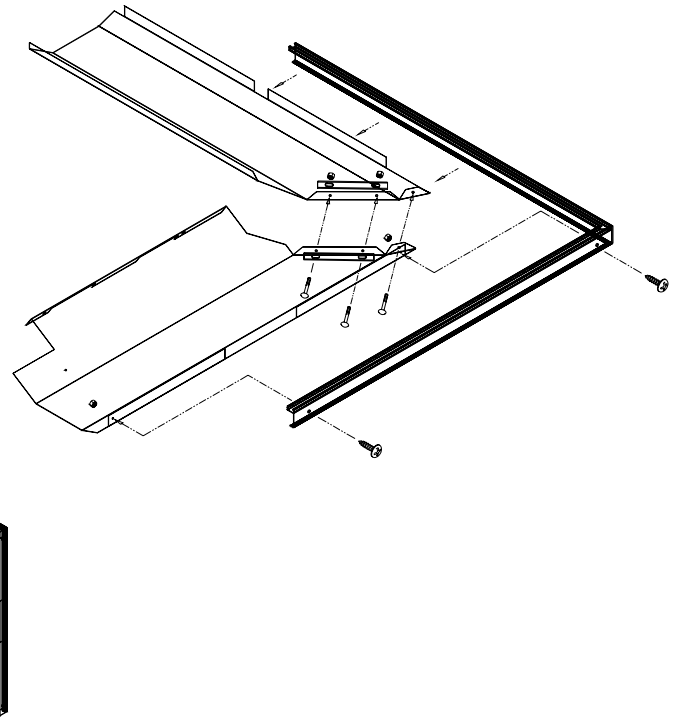

Figure 2.6
3. Line up the holes of the side and top panels and secure with the six (6) screws, washers and nuts. (see Figure 2.6)
5. Secure trim to faceplate using four (4) brass screws and nuts. (see Figure 2.6)